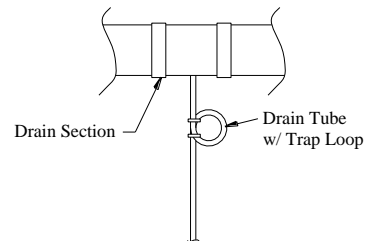

Fig 6B. (In-Line Drain Section and Drain Tube)
- Use the In-Line Drain Section for a straight horizontal run. Rotate the fitting so that the drain tube points downward and is as vertical as possible (See Fig. 6B).